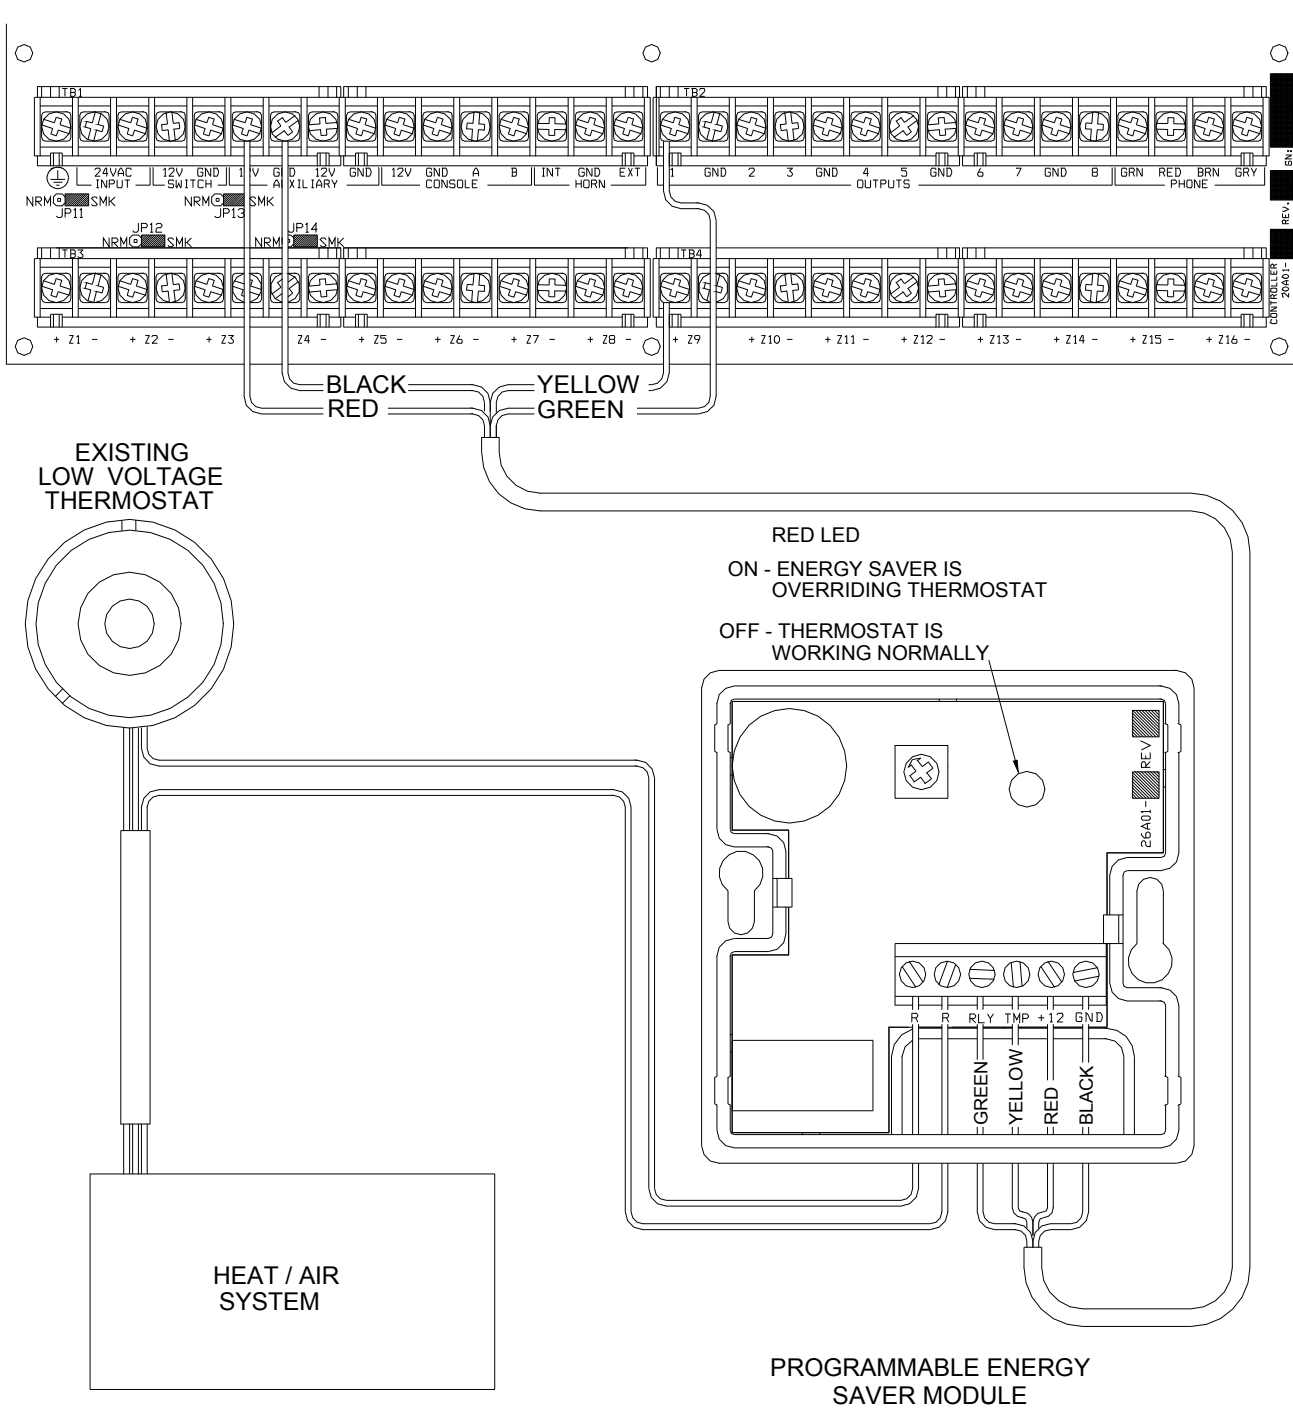

FIGURE 13 - PESM CONNECTIONS
3. Run a 4-conductor wire from the OmniPro II controller to each PESH. Connect as shown in **FIGURE 13 (PESH CONNECTIONS)**.